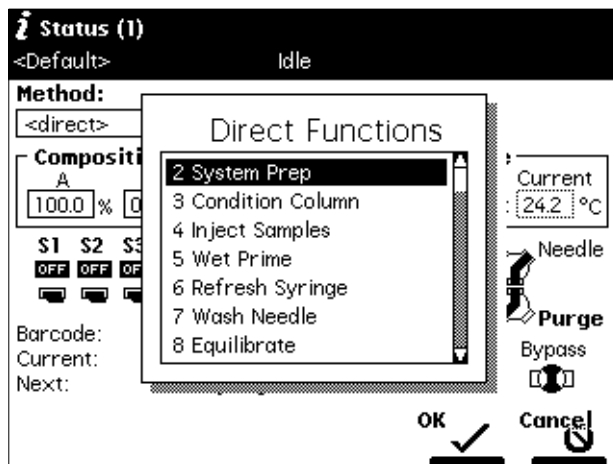

Figure 2-2 Direct Functions List
3. Press the **Direct Function** screen key. A list of direct functions appears (Figure 2-2). Table 2-1 describes the direct functions.
6. Press the **Direct Function** screen key. The Direct Functions list appears (Figure 2-2).
3. Press the **Direct Function** screen key. The Direct Functions list appears (Figure 2-2).
4. Press the **Direct Function** screen key. The Direct Functions list appears (Figure 2-2).
2. Press the **Direct Function** screen key. The Direct Functions list appears (Figure 2-2).